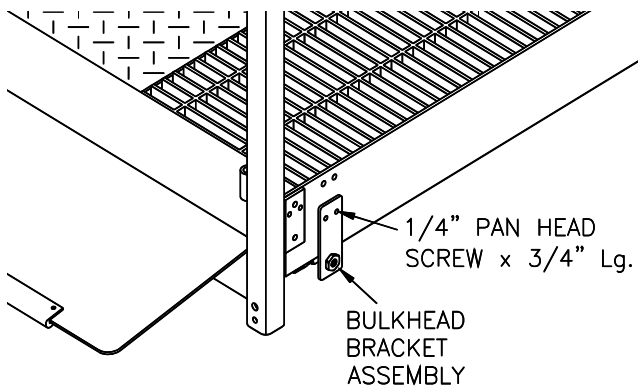

Fig 34 – Air Line Bulkhead Bracket (front left corner of MDTR shown)
- 61) * Attach one bulkhead bracket assembly to each lift near the front on the side adjacent to the platform (if lift has a platform on each side attach bracket to the left runway), **Fig 34**.